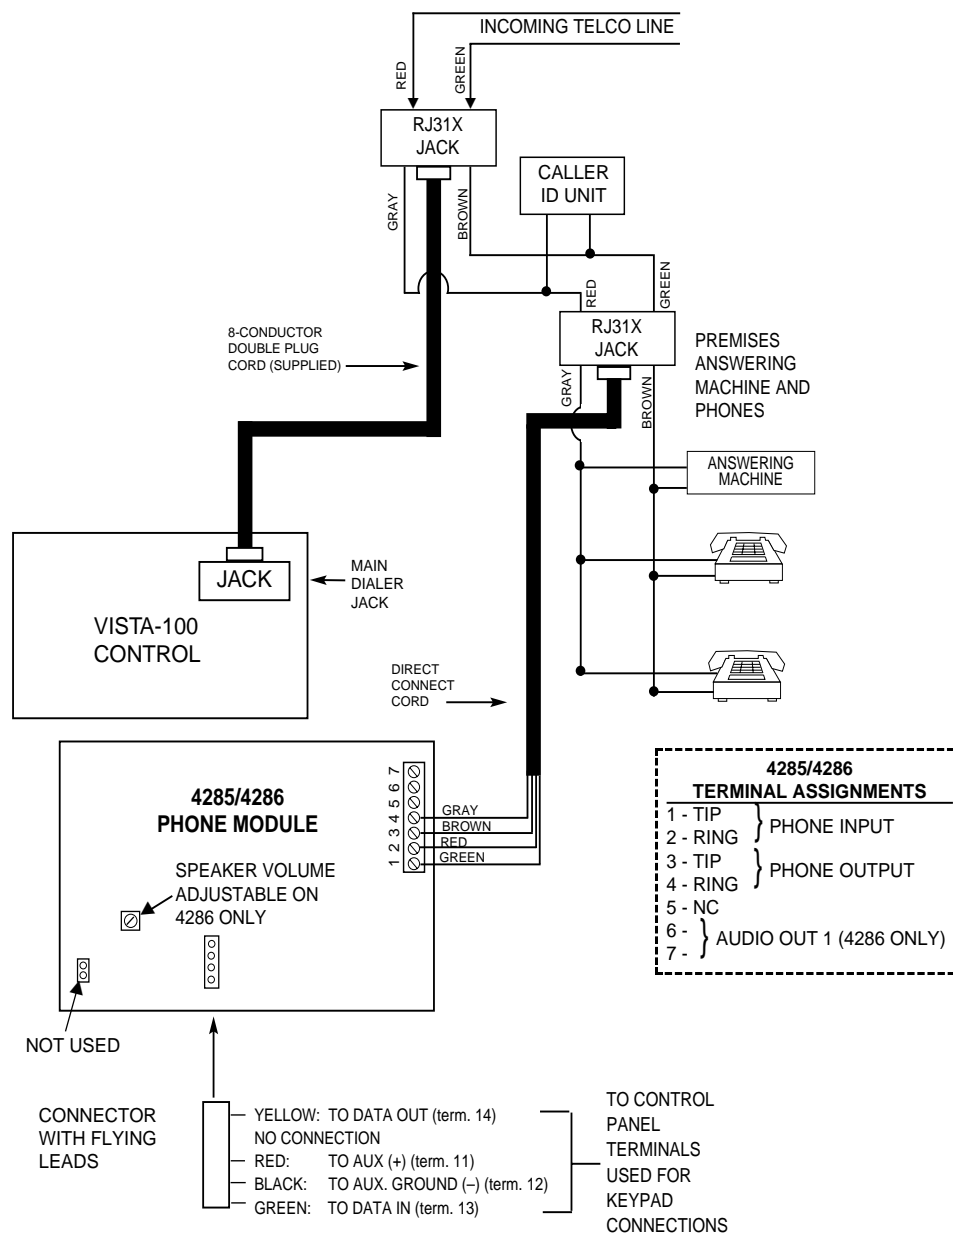

Figure 10-1. 4285/4286 VIP Module Connections
5. Ground	earth ground terminal (30) on control
- Use an RJ31X Jack with the phone cable supplied with the control. Use an additional RJ31X Jack and a direct-connect cord to make connections to the 4285/4286. Make all connections exactly as shown in *Figure 10-1*. This is essential, even if the system is not connected to a central station. **The 4285/4286 will not function if this is not done.** If the leads on the cable are too short to reach their assigned terminals, splice additional wires to them, as required.